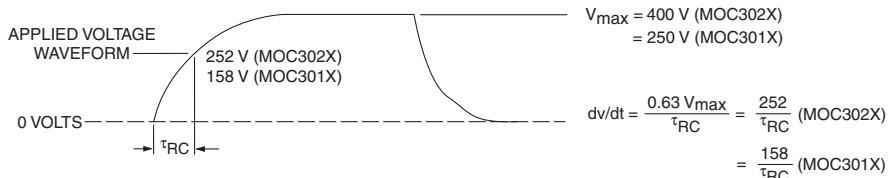

Figure 5. Static  $dv/dt$  Test Circuit
2. This is static dv/dt. See Figure 5 for test circuit. Commutating dv/dt is a function of the load-driving thyristor(s) only.
**Fig. 5 dv/dt vs. Temperature**